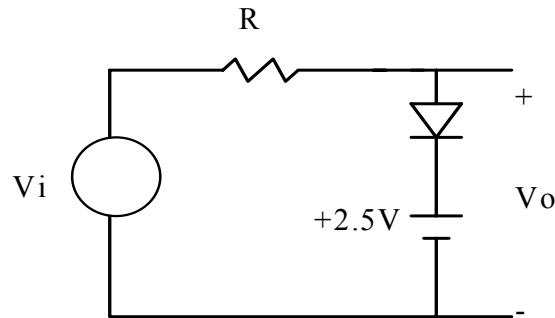

Figure 2-1: Schematic of a clipper circuit.
The diode has many applications. In this lab, a few of them will be investigated. The first is the clipper circuit. This circuit limits an input voltage to certain maximum or minimum values. In the circuit in Figure 2-1, one can see that as long as V_i is less than 2.5V, then the diode will be reverse biased (an open circuit). In this case, the output voltage will track the input voltage. If V_i exceeds 2.5V then the diode turns on and then V_o will be 5V. Thus, this circuit limits the output voltage to less than 2.5V. By rearranging the components variations on this circuit can be achieved. (See Savant.)
- a) Connect the circuit in Figure 2-1. Use $R = 100$ kohms and a 1N4004 diode. For the input signal, use a 10 Vp-p, 1kHz sine wave and use your power supply to provide the battery voltage. Capture the I/O waveforms.